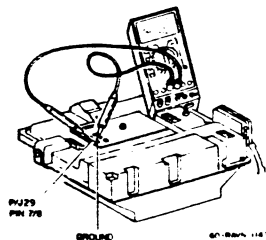

Figure 2. Connecting the Meter
- a. Adjust meter to 15 volt scale and connect to P/J29 pin 7 and ground (Figure 2).